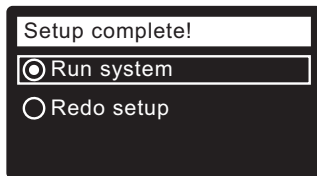

FIG. 24
24. Press the SELECT (O) button. The screen will show “Setup complete!” (See Figure 24).
25. If, at this point, you want to go back and make changes, press the DOWN (▼) button to scroll to **Redo setup**, then press the SELECT (O) button twice to repeat the “wizard” screens.
26. If no changes are desired, make sure **Run system** has a dot next to it (See Figure 24) and press the SELECT (O) button. The unit begins normal operation, described on Page 17.